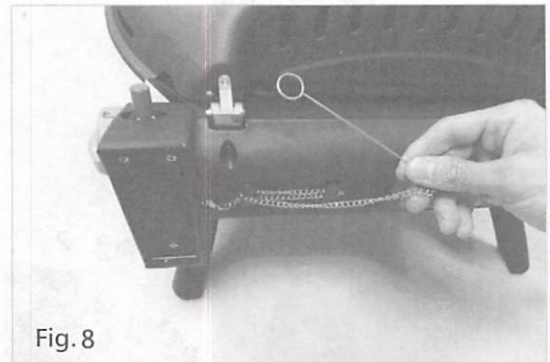

Fig. 8
- (a) First, remove the match extension stick from the storage compartment (Fig. 8)